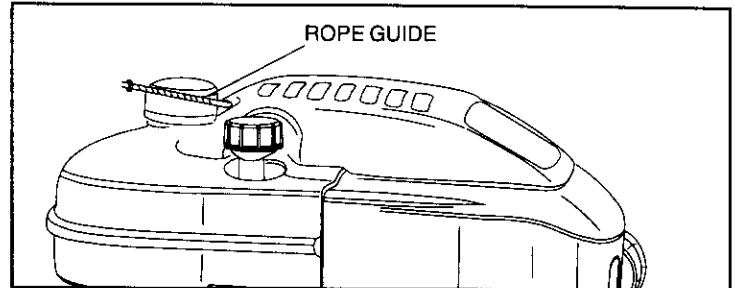

Figure 2
4. a) **RECOIL STARTERS:** Grasp starter handle (figure 2) and pull rope out slowly until you feel drag. Let rope rewind slowly. Pull rope with rapid, full arm stroke. Return rope slowly to original position.